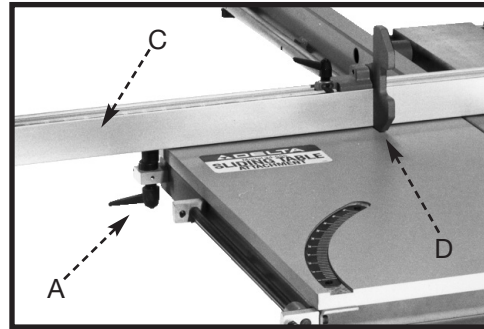

Fig. 69
3. Slide the fence (C) Fig. 69 back on the fence clamps and tighten the lock handles, one of which is shown at (A).
**NOTE:** When the fence (C) is used in the rear table position (Fig. 69), flip the fence stop (D) to the front.